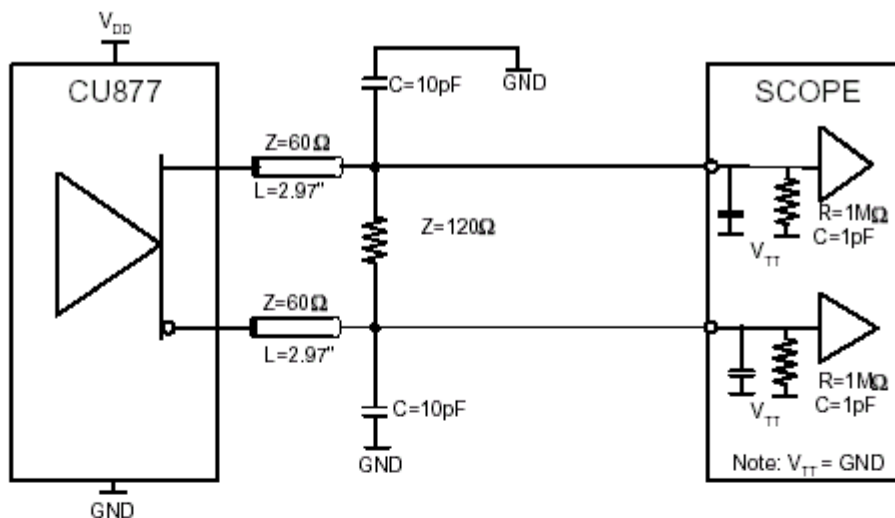
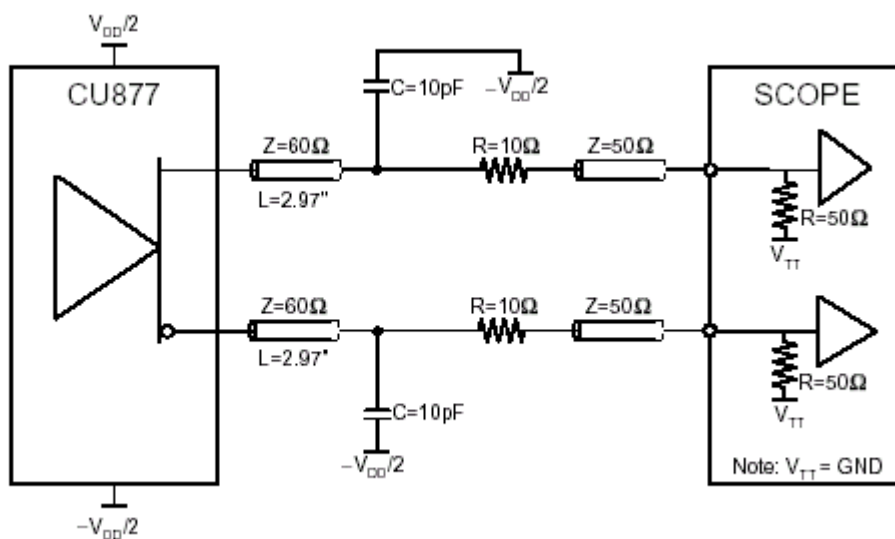

Figure 2. Output Load Test Circuit 1
Figure 3. Output Load Test Circuit 2
- There are two different terminations that are used with the following tests. The load/board in Figure 2 is used to measure the input and output differential-pair cross voltage only. The load/board in Figure 3 is used to measure all other tests. For consistency, equal length cables must be used.
- The output slew rate is determined from the IBIS model into the load shown in Figure 3.